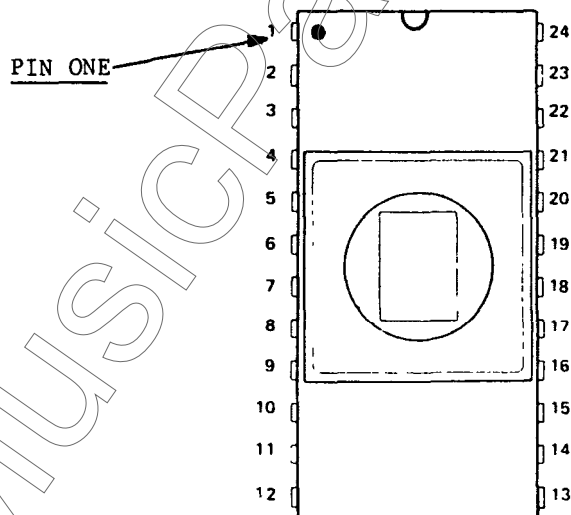

FIG. 4 ROM OUTLINE
3. Carefully remove it from its socket, and locate pin 1. Pin 1 is identified by a small circle on the top of the IC, or by a dimple on one end. (See figure 4).